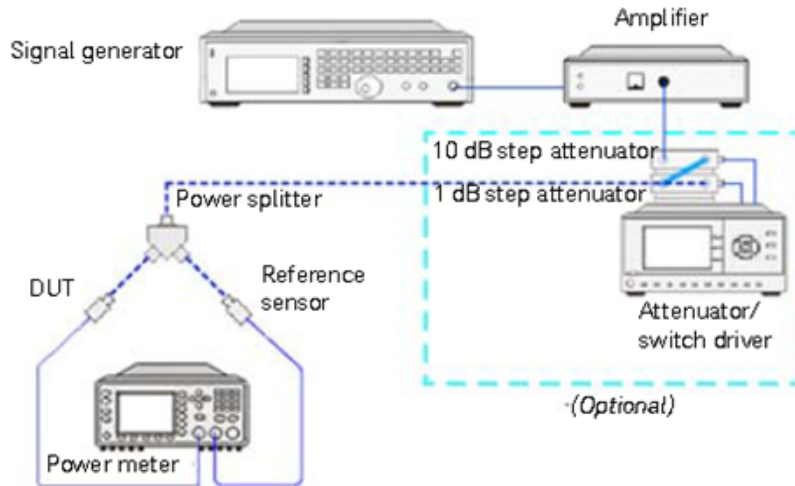

Figure 1-6 Power linearity performance verification equipment setup
- 3 Connect the power splitter (11667B/11667C) to the RF output of the signal generator (N5182A). The equipment setup is as shown in Figure 1-6.